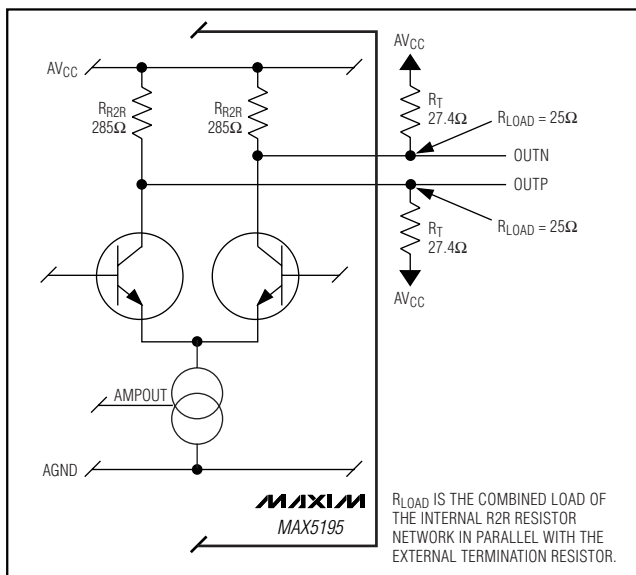

Figure 5. Simplified Output Architecture
The MAX5195's current array is designed to drive full-scale currents of 10mA to 20mA into an internal R2R resistor network (RR2R). To achieve the desired differential output voltage range of 0.5VP-P to 1VP-P, both OUTP and OUTN should be externally terminated into 27.4Ω (RT), resulting in a combined load of RLOAD = 25Ω (Figure 5):